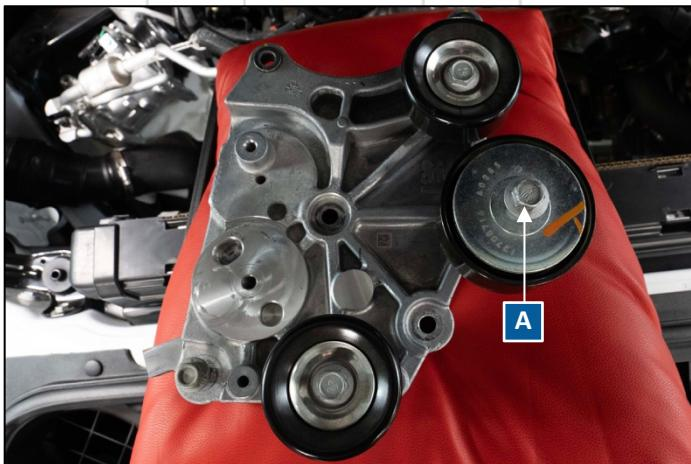

Figure 12: Accessory Bracket Removed for Reference
16. Remove right center pulley, 15mm hex head bolt (labeled as A in Figure 12).